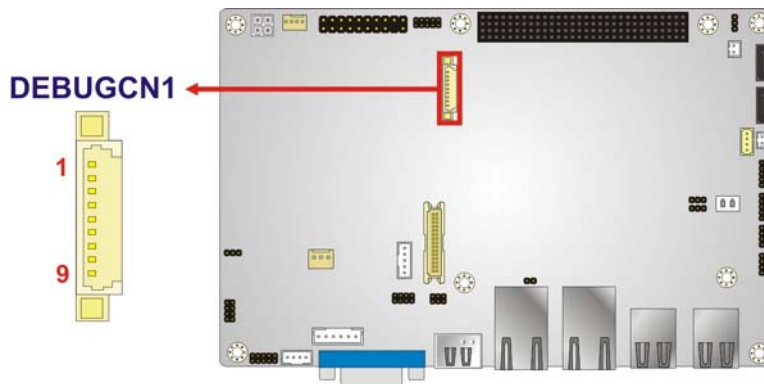

Figure 3-7: Debug Port Connector Location
- CN Location: See **Figure 3-7**